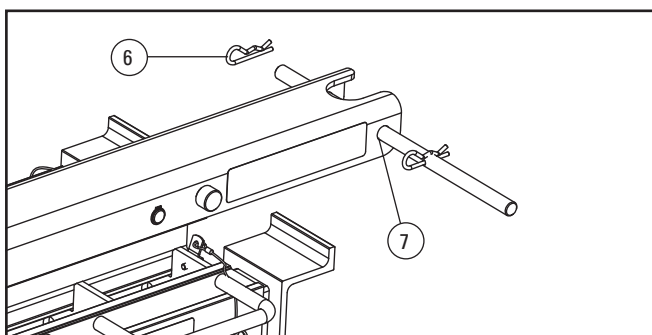

Fig. 21 Trolley assembly 3
- 4 Insert the handlebar of the cart (Figure 21, Pos. 7) into the external bore hole of the troughing belt opposite, and secure it by inserting the cotter pin (see Figure 21, Pos. 6).
- 1 Remove the handlebar from the troughing belt (see Figure 21, Pos. 6 and 7).